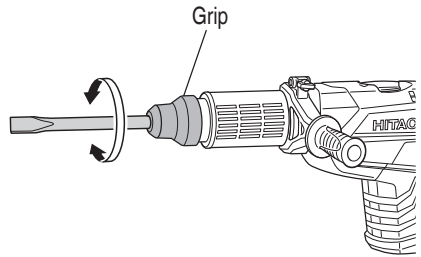

Fig. 10
- (b) Turn the grip or the tool as illustrated in Fig. 10 and fix the tool to the desired working direction.